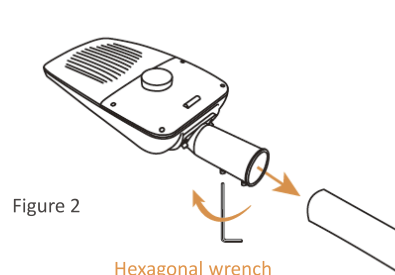

Figure 2
② Install the pole, as shown in Figure 2.